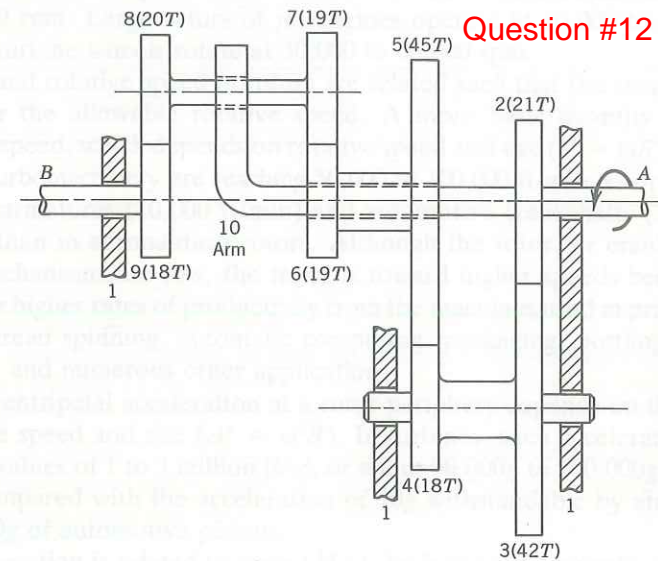

FIGURE 7.53
7.49. In the spur gear differential shown in Fig. 7.53, shaft *A* turns at 250 rpm in the direction shown and transmits 30 hp. Shaft *B* is the output shaft. Calculate the power circulating in the branch control circuit and make a schematic power flow diagram.